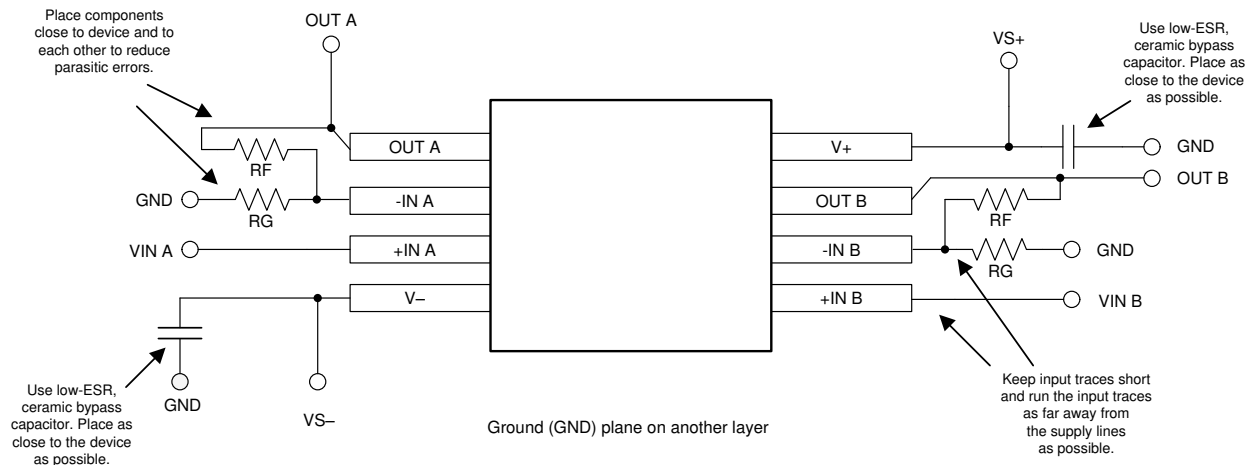

图 11-2. Layout Example
- Place the external components as close to the device as possible. As shown in 图 11-2, keeping RF and RG close to the inverting input minimizes parasitic capacitance on the inverting input.